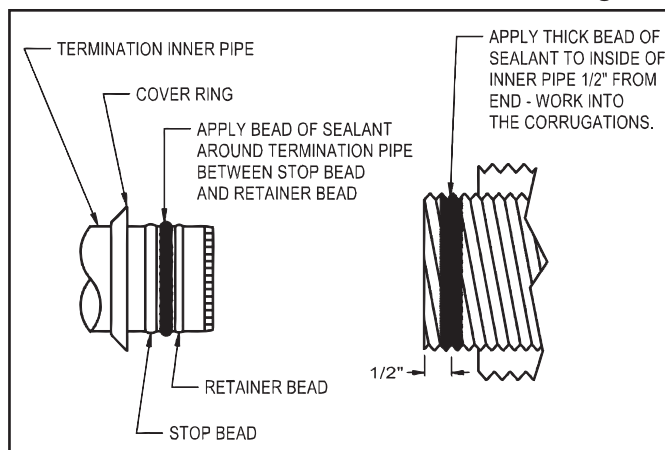

Figure 4
5. Remove all oil and grease from end of termination inner pipe and apply a bead of sealant between the stop bead and retainer bead. (See Figure 4)
6. Apply a thick bead of sealant to inside of inner vent pipe $\frac{1}{2}$ " from the end of pipe, working the sealant into the corrugations. (See Figure 4)